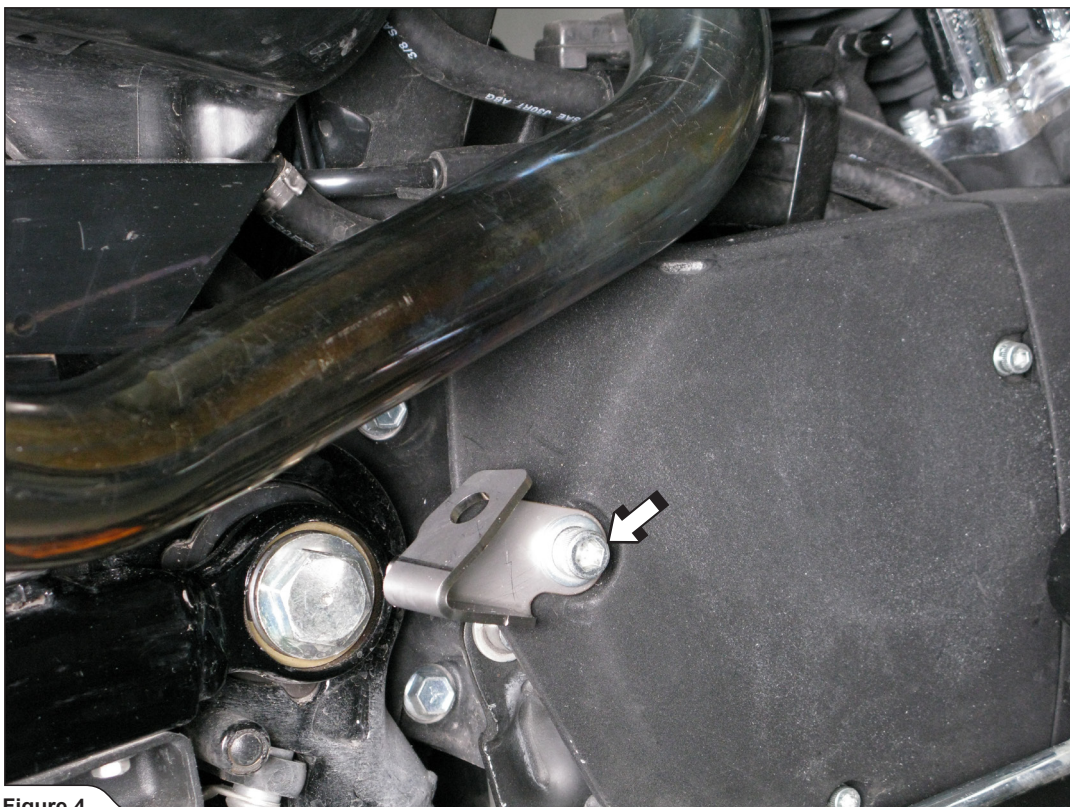

Figure 4
5. Unscrew and remove the rear header pipe's original bracket and replace it with Akrapovič bracket from installation kit (Figure 4).